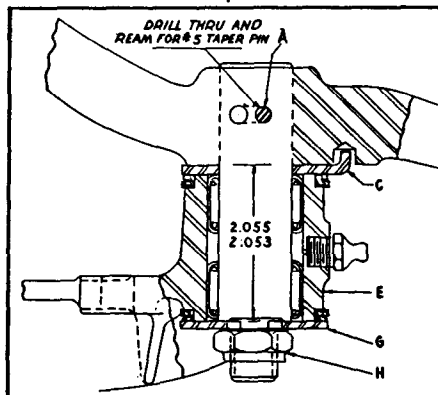

Fig. 1
REPLACING THE CENTER STEERING ARM PIVOT often reveals the need for new bearings in the center steering arm bracket as shown in Fig. 1 (E) below. Install new bearings by pressing on the outer race near the part number.
maintaining the dimension of from 2.053" 2.055" as shown in Fig. 1 before drilling the hole for the No. 5 taper pin (A).
The rubber lip of the steering arm seal should face the casting and the spacers (C) and (G) positioned as shown in Fig. 1. The center steering arm pivot shaft nut should be tightened to 50-60 foot lbs.